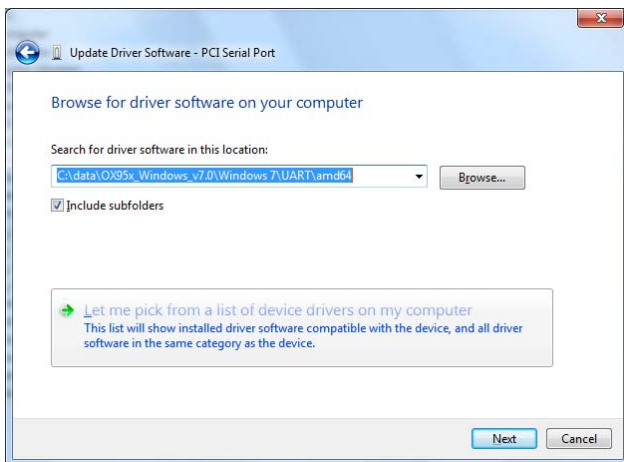

Figure 23
3. Click on the “Browse my computer for driver software” selection. A screen as shown in Figure 23 displays.